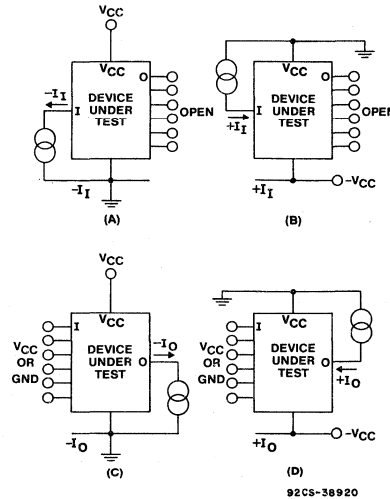

Fig. 16 - Test set-up for positive and negative trigger current
- Apply $\pm I_I$ or $\pm I_O$ (Fig. 16)